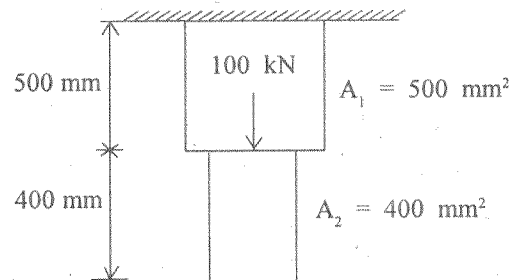

Fig. 1
11. The vertically supported stepped bar is shown in Fig. 1. The specific weight is  $75 \text{ kN/m}^3$ . A point load of  $100 \text{ kN}$  acts at the middle node. Determine the stress in each element and the support reaction. Take  $E = 200 \text{ GPa}$ .